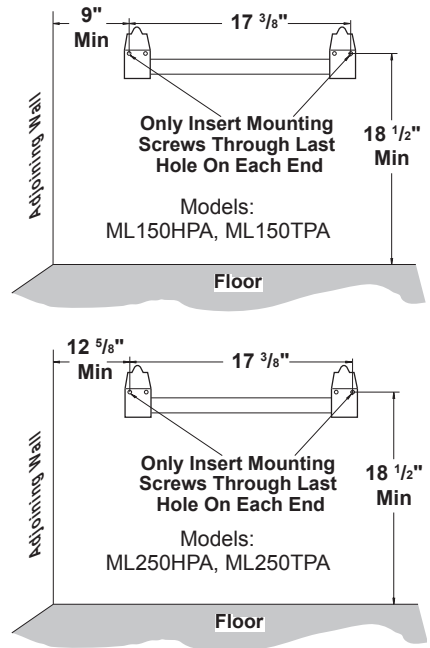

Figure 8 - Mounting Bracket Clearances
2. Mark screw locations on wall (see Figure 8). *Note: Mark only last hole on each end of mounting bracket.* Insert mounting screws through these holes only.